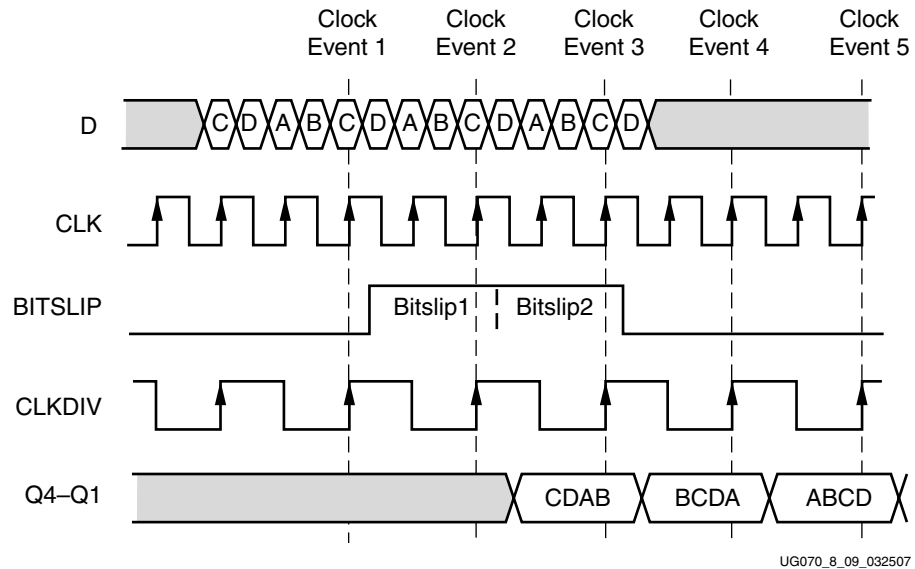

Figure 8-12: Bitslip Timing Diagram
This section discusses the timing models associated with the Bitflip controller in a 1:4 DDR configuration. Data (D) is a repeating, 4-bit training pattern ABCD. ABCD could appear at the parallel outputs Q1–Q4 of the ISERDES in four possible ways: *ABCD*, *BCDA*, *CDAB*, and *DABC*. Only one of these four alignments of the parallel word makes sense to the user's downstream logic that reads the data from the Q1–Q4 outputs of the ISERDES. In this case, it is assumed that *ABCD* is the word alignment that makes sense. Asserting Bitflip allows the user to see all possible configurations of ABCD and then choose the expected alignment (*ABCD*). Figure 8-12 shows the timing of two Bitflip operations and the corresponding re-alignments of the ISERDES parallel outputs Q1–Q4.